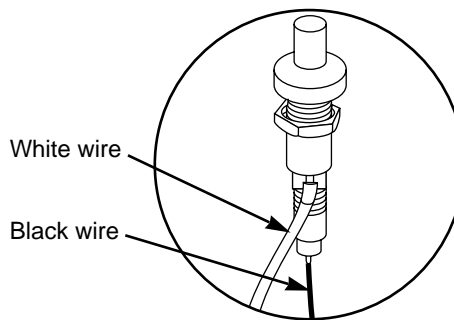

Figure 12
- Check that both the white and black ignition wires are attached properly. Figure 12.